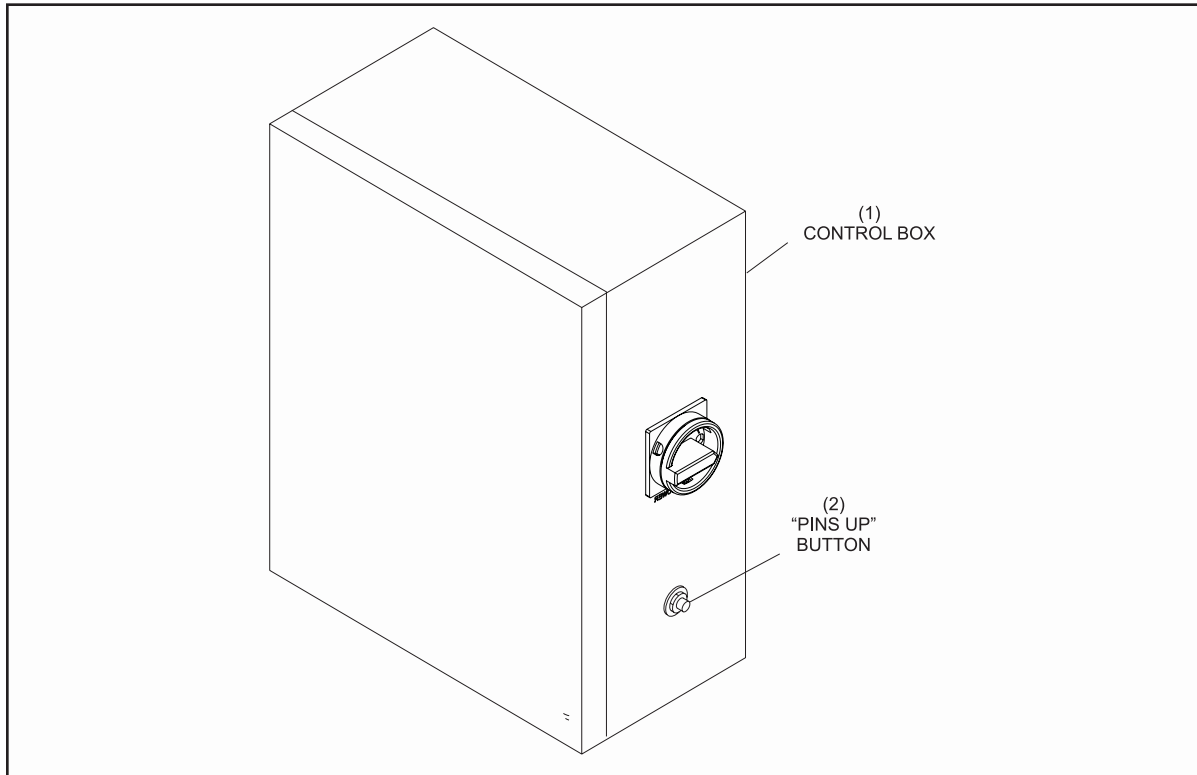

Figure 4-1. “Pins Up” Push Button
The purpose of the Pins Up switch adjustment is to make sure that the string wagon catches on the stop dogs properly when the Pins Up push button on the StringPin Controller is pressed to raise the pins. Refer to Figure 4-1. Since the switch itself is mounted in a fixed position, the adjustment is accomplished by rotating the switch cluster gear and cam assembly.
1. Press the “Pins Up” button on the side of the controller box to raise the pins to the up position. Refer to *Figure 4-1*.
1. Press the “Pins Up” button on the side of the controller box to raise the pins to the up position and lock the string wagon on the stop dogs. Refer to *Figure 4-1*.